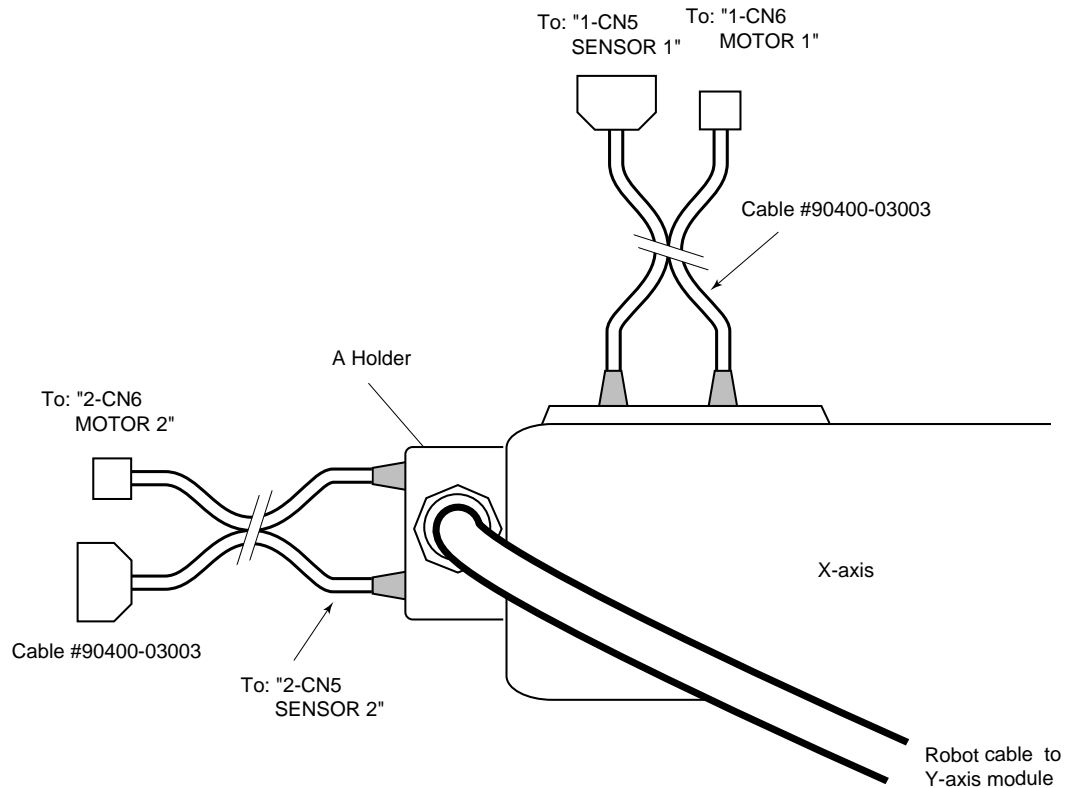

Figure 4-44. Connecting to an EXA or EXC Controller
- a. Connect the two barrel ends of the cable to the X-axis module as shown in Figure 4-44. These connectors have different pin sizes and cannot be installed incorrectly. The other ends connect to the controller connections marked “1-CN6 MOTOR 1” and “1-CN5 SENSOR 1”.
- b. Attach the A holder end of the robot cable to the motor end face of the X-axis module as shown in Figure 4-44 (refer to Section 4.3 for holder mounting).
- d. Connect the two barrel ends of the controller cable to the Z-axis robot cable holder on the X-axis module as shown in Figure 4-44. These connectors have different pin sizes and cannot be installed incorrectly. The other ends connect to the controller connections marked “2-CN6 MOTOR 2” and “2-CN5 SENSOR 2”.